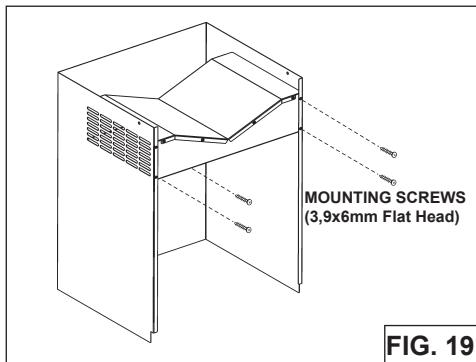

FIG. 19
3. Install the plenum to the upper decorative flue using (4) 3.9 x 6mm flat head screws provided as shown (Fig.19).